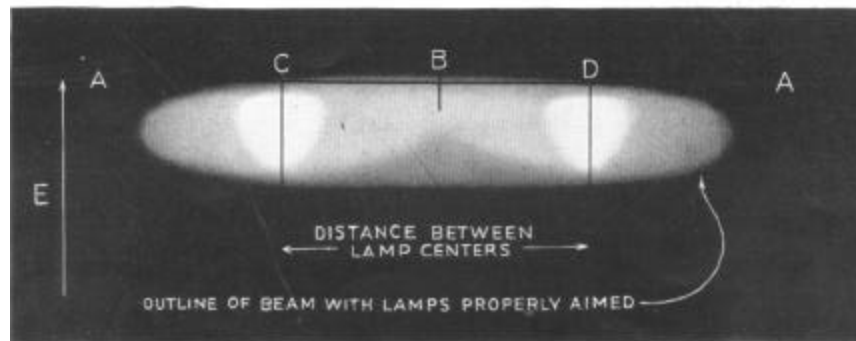

Figure 61
Place the car on a level floor or driveway squarely in front of a white wall or screen at a distance of twenty-five feet. Draw a horizontal line (AA), Figure 61, on a wall six feet long and at a height of thirty-five and one-quarter inches above the floor (E). This line represents the top of the beam. Next draw two vertical lines (C and D) twenty-six and thirteen thirty-seconds inches apart. Measure one-half the distance between (C and D) and draw line (B) ten inches long. These vertical lines represent the distance